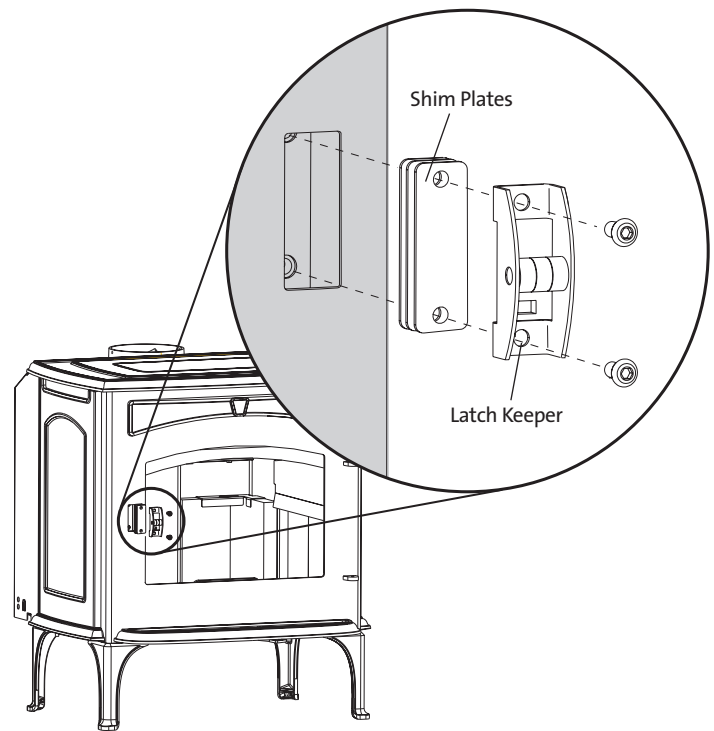

Figure 19. Latch adjustment.
1. Remove the two socket head screws and latch keeper from the stove. See fig. 19.